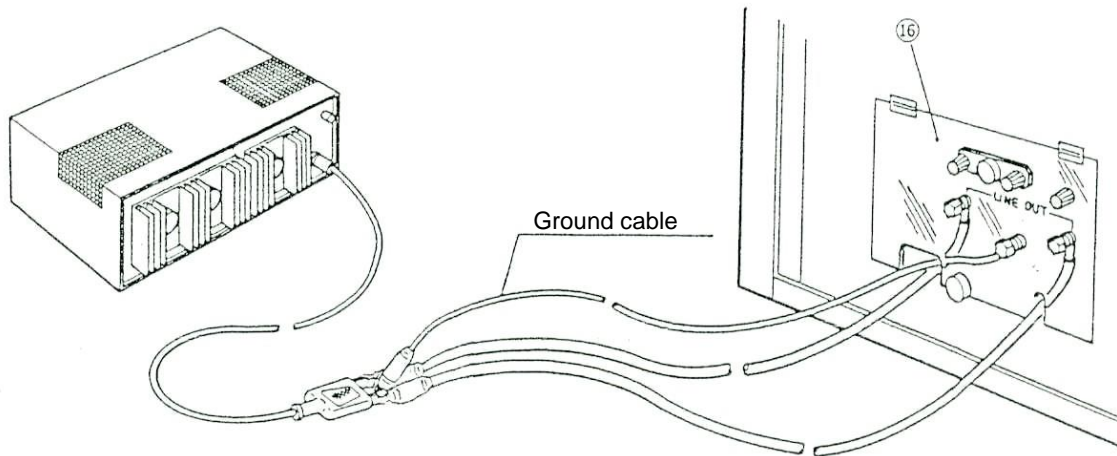

Fig. 16
6. For the normal mode testing, connect LINE OUT terminal of the Surge injection phase selector to EUT with the attached LINE OUT cable as shown in Fig. 16. Connect G terminal to the reversed phase of EUT (e.g. If the surge is injected to R-phase, it is S-phase) with the attached Ground cable.